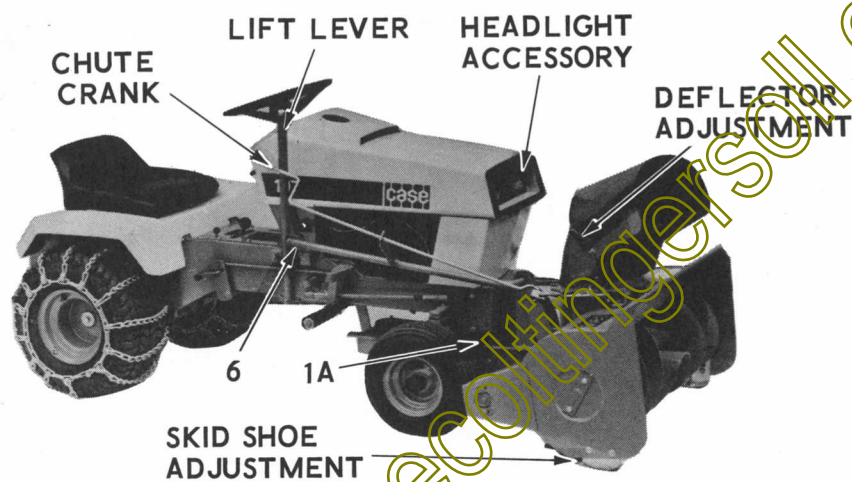

Figure 29
NOTE Before proceeding, make sure the front idler pulley, Reference 1A, Figures 29 and 33 (inset), is installed under the front right corner of the attachment drive shield. Once installed, this pulley can be left on the tractor the year around.
6. Connect the lift arm and crank assembly to the tractor lift lever, Reference 6, Figure 29, using the retainer provided.